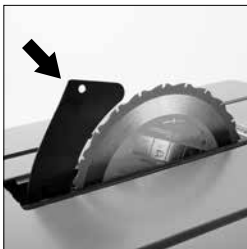

Fig. 11
- Raise the blade to its full height to fully reveal the riving knife. **(Fig. 11)**